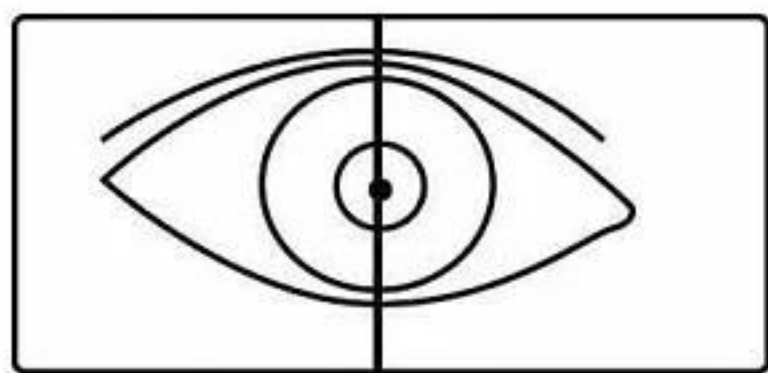
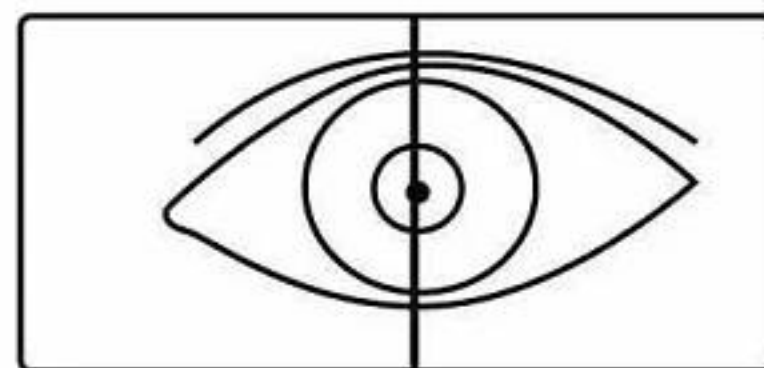

Fig.9a (Measuring right pupillary distance)
Fig.9b (Measuring left pupillary distance)
**4.4.1** When needing to measure the left or right pupillary distance, please turn the Monocular Covering Knob (as shown in Fig.3 NO.2) which can cover the other eye completely(as shown in Fig.9a and Fig.9b).